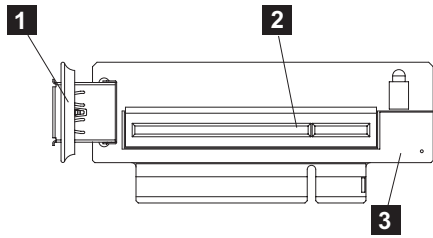

Figure 204. USB riser-card assembly (SAN Volume Controller 2145-CF8 shown)
7. Remove the USB service-controller cable from the USB connection ( **1** in Figure 204 on page 209) on the disk-controller and USB riser-card assembly ( **3** ), as described in “Removing and replacing the SAN Volume Controller 2145-CG8 or 2145-CF8 service controller cable” on page 88.